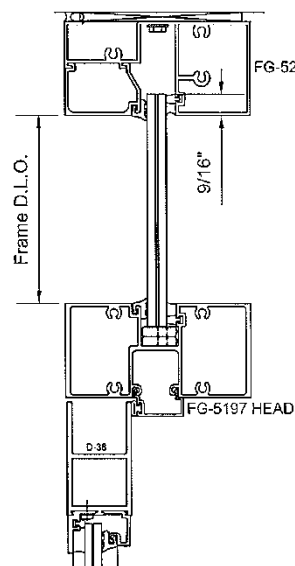

FIGURE 3
- Surface closure - For transom glass height use Frame D.L.O. plus 1 1/8" as shown in Figure 3.